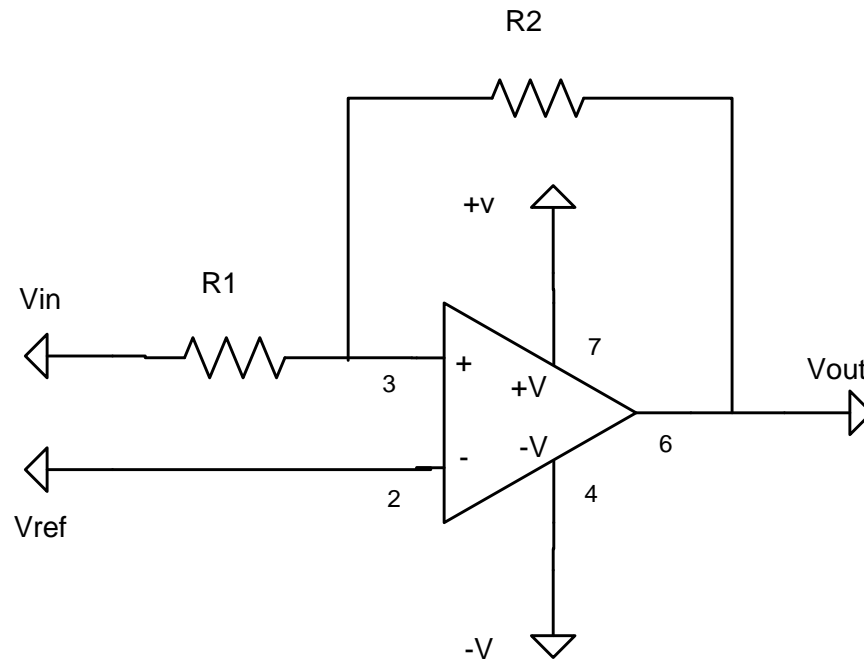

Figure 2: Comparator with hysteresis
The Schmitt trigger circuit is a comparator that uses hysteresis to help reject noise. Figure 1(b) shows the input versus the output characteristic of the Schmitt trigger circuit. As the diagram shows, there is a buffer zone about the reference voltage to prevent small perturbations in the input signal from causing the comparator to flip continuously. Because of the buffer zone, the comparator no longer changes state from high to low at the same voltage that it changes from low to high. Hysteresis in the Schmitt trigger ensures that the output signal is the same frequency as the input signal for noisy input signals that may cross the threshold several times while rising and falling. The Schmitt trigger is especially useful for slowly varying and noisy input signals. The op amp in the comparator circuit in Figure 2 allows for flexibility in setting the gain, thresholds, and reference voltage.
4.3. (25 point) Design a comparator circuit based on Figure 2 such that the $V_{TL} = -1$ V, $V_{TH} = +1$ V, and $V_{ref} = 0$ V. Assume that $V_{out,high} = 14.7$ V and $V_{out,low} = -14.7$ V. Verify the comparator design with LTspice. Use ± 15 V supplies for the op-amp. Sweep the DC input voltage from -5 V to $+5$ V and from $+5$ V to -5 V.
5.1. Construct the comparator circuit in Figure 2. Set the reference voltage to zero and the thresholds to $\pm 1\text{V}$. Use $\pm 15\text{V}$ supplies for the op-amp (741). Be sure to bypass the power supplies with a 4.7 nF capacitor across the Op Amp (pin 4 to pin 7). **No printouts.**